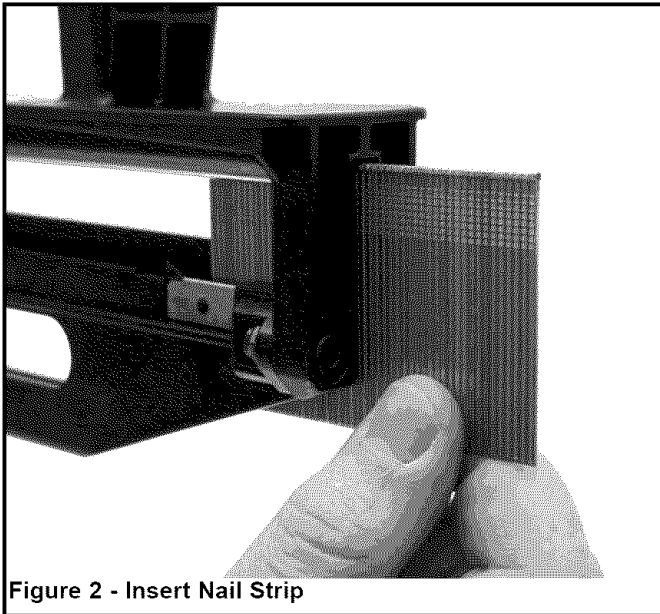

Figure 2 - Insert Nail Strip
Refer to Figures 2, 3 & 4 (page 4).
- Insert nail strip into slot located on the end of the magazine (see Figure 2).